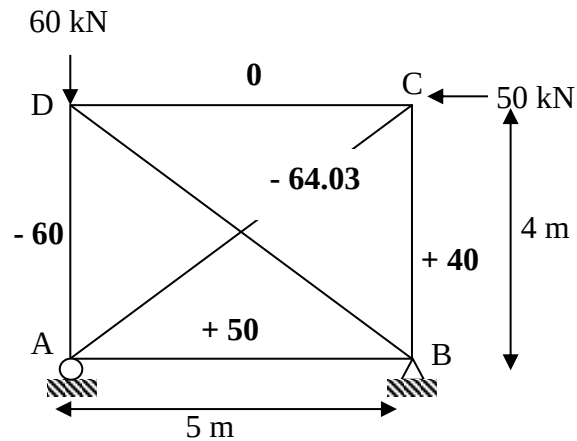

Figure 4(c) / Rajah 4(c)
- CLO1 (c) A statically indeterminate truss is subjected to an external load and internal forces (P) for each member due to external load as shown in Figure 4(c). Given the cross-sectional area, A and modulus of elasticity, E are constant for each member of the truss.